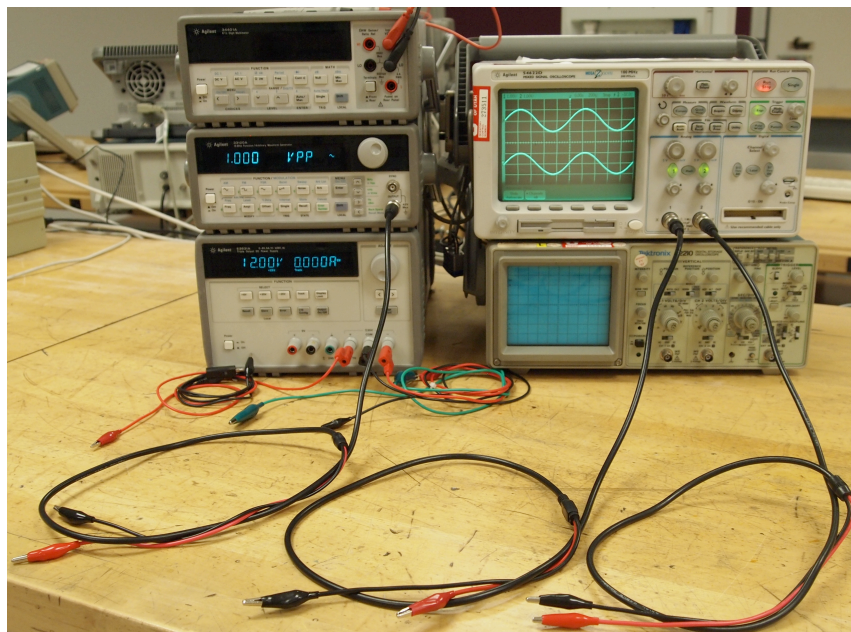

Figure 10. Waveform generator and oscilloscope connections.
2) *Test the op-amp circuit using a function generator and an oscilloscope.* Fig. 10 shows how to connect leads to the function generator and oscilloscope in preparation for making measurements. After making the connections shown in Fig. 10, connect all the black leads to 0V, which is running all the way down the leftmost column of the breadboard. Add wires for connections as needed. Connect the function generator output (red alligator clip) to “Input 1” on the breadboard. Also, connect the red alligator clip for input 1 on the oscilloscope to “Input 1” on the breadboard. Input 1 of the oscilloscope will show the waveform from the function